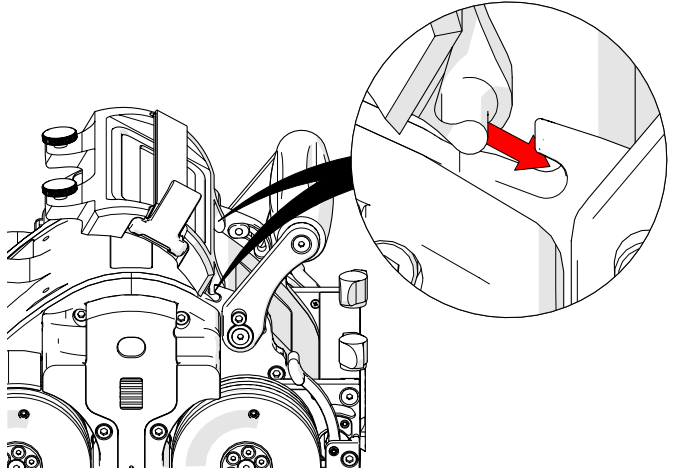

Fig. 104 - Fit backpack into notches
2. Place the front of the backpack into the notches found near the base of the handle (Fig. 104).